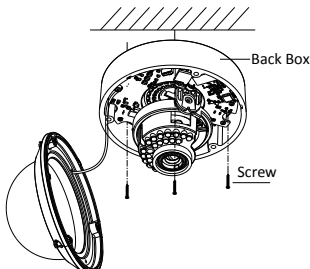

Figure 2-3 Secure the Camera
6. Secure the camera with the supplied screws as shown in Figure 2-3.